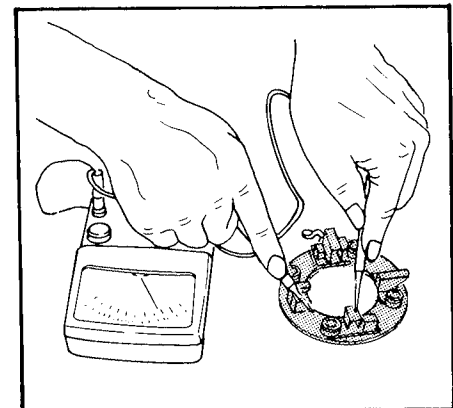

Fig. 6-33 Check Brush Holders
(2) Clean the brush holders to remove carbon and check for insulation between the brush holders and the mounting plate (Fig. 6-33).